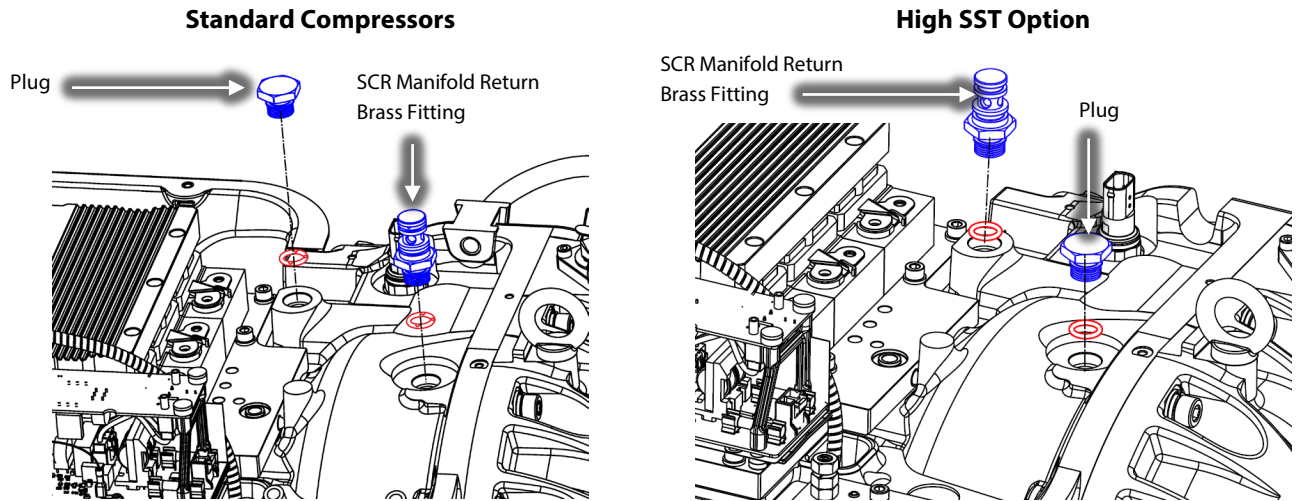

Figure 5 – Plug and SCR Manifold Return Brass Fitting Locations
2. Remove the SCR Manifold Return Brass Fitting. Refer to *Figure 5 – Plug and SCR Manifold Return Brass Fitting Locations*.
3. Remove the Brass Plug. Refer to *Figure 5 – Plug and SCR Manifold Return Brass Fitting Locations*.
5. Remove the O-ring from the Brass Plug. Refer to *Figure 5 – Plug and SCR Manifold Return Brass Fitting Locations*.
9. Install the SCR Manifold Return Brass Fitting into the compressor housing (where the Brass Plug was previously installed) and torque to 7 Nm (62 in.lb). Refer to *Figure 5 – Plug and SCR Manifold Return Brass Fitting Locations*.
11. Install the Brass Plug (where the SCR Manifold Return Brass Fitting was previously installed) and torque to 7 Nm (62 in.lb). Refer to *Figure 5 – Plug and SCR Manifold Return Brass Fitting Locations*.